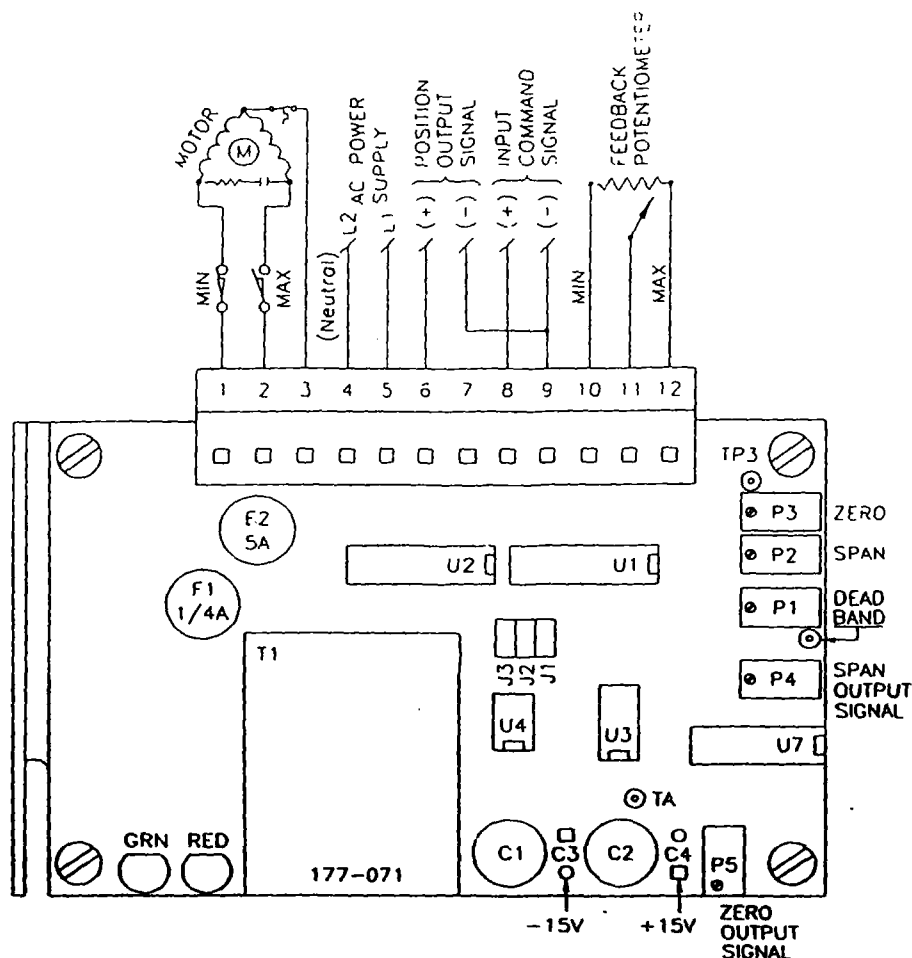

Fig. 2.
4. Verify that the wire connected to terminal #1 goes to the **MINIMUM** command signal limit switch and the wire connected to terminal #2 goes to the **MAXIMUM** command signal limit switch (Fig. 2).
5. Verify that the actuator feedback potentiometer wires are properly connected (Fig. 2). Check for 20 Ohms of resistance between wire/terminal 10 (standard), or 12 and wire/terminal 11 (slider), at the **MINIMUM** command signal position. See applicable wiring diagram.
2. Set the multimeter to the d.c. volts mode to measure the specified voltages. Locate the test points on the Position Controller board (Fig. 2). With terminal #9 as common, check for:
- $+15 \pm 0.6$ Vdc at the capacitor C4 as shown in Fig. 2.
- -15 ± 0.6 Vdc at the capacitor C3 as shown in Fig. 2.
- With the power off, verify that the actuator's feedback potentiometer is properly connected to the terminal block (Fig. 2). See §II-5.
- Check or set the proper jumper (Fig. 2). If the command signal fails, the jumper setting determines the position of the actuator.
Check the operation of the **Position Controller** by applying the proper input command signal (Fig. 2). See your specific wiring diagram. Use a multimeter to monitor the input and output signals.